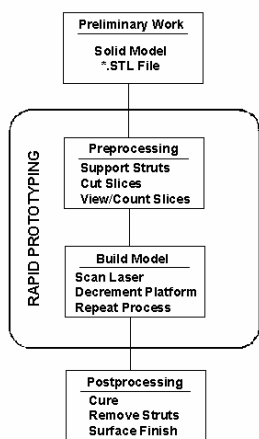

fig. 2. the rapid prototyping process
- *Post-processing of part* - After being built, the part and any supports are removed from the machine. If the part was fabricated from a photosensitive material, it must be cured to attain full strength. Minor cleaning and surface finishing, such as sanding, coating, or painting, can be performed to improve the part's appearance and durability. The rapid prototyping process is shown on figure 2.